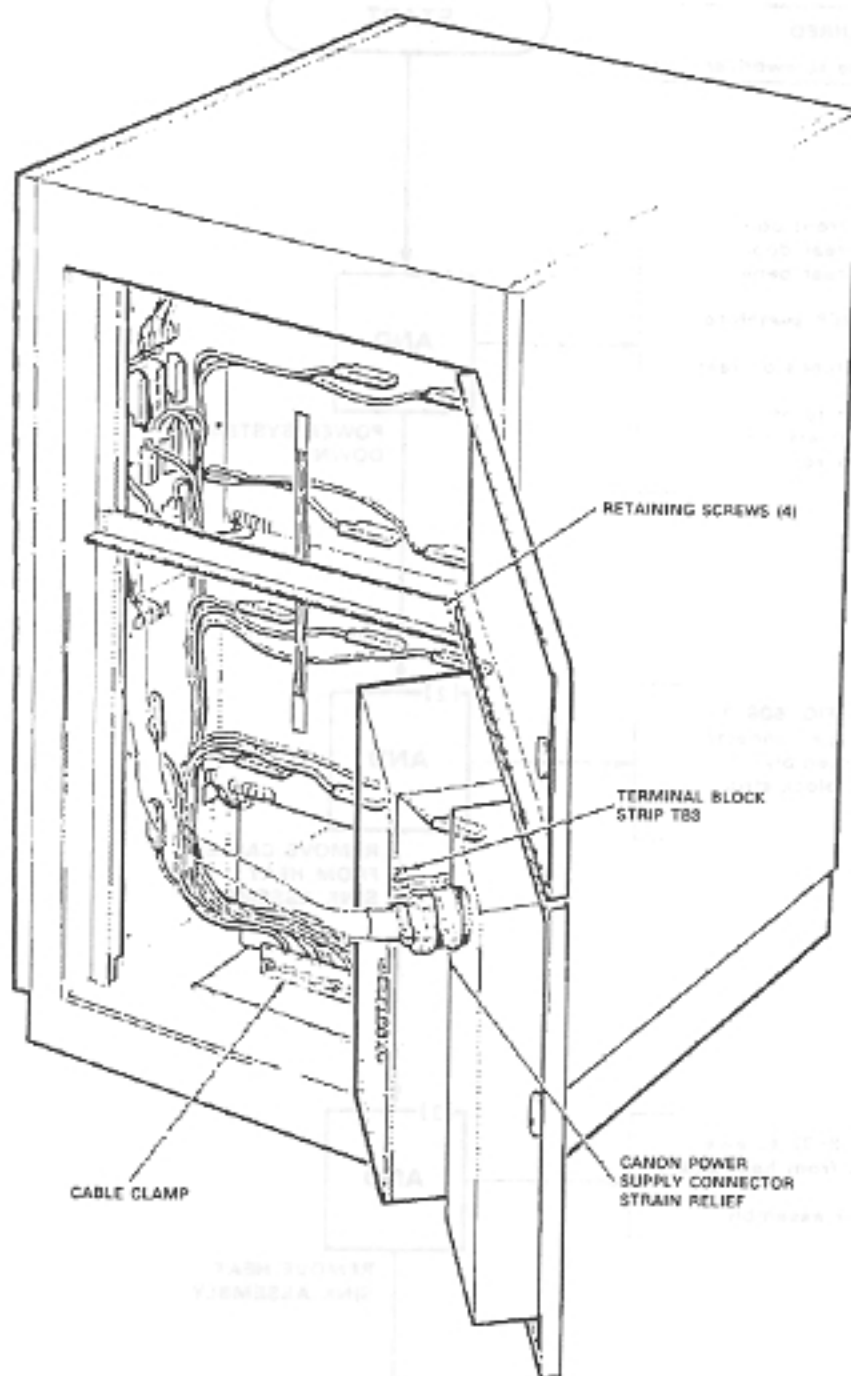

Fig. 506-1
- AT REAR OF CABINET (FIG. 506-1)